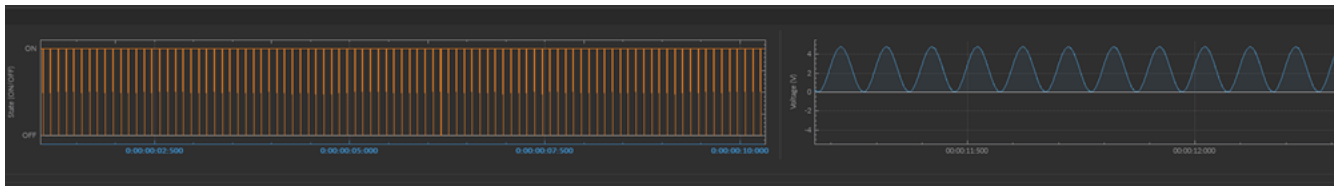

Figure 9.58: Acquisition View - Output graph
- Analog output channels display an **Active state** graph (Fig. 9.58, left panel). This graph displays whether the channel is outputting a signal (On, $V \neq 0$) or not (Off, $V = 0$).
- Output channels display a **Preview** graph (Fig. 9.58, right panel), showing a preview of the pulse sequence.